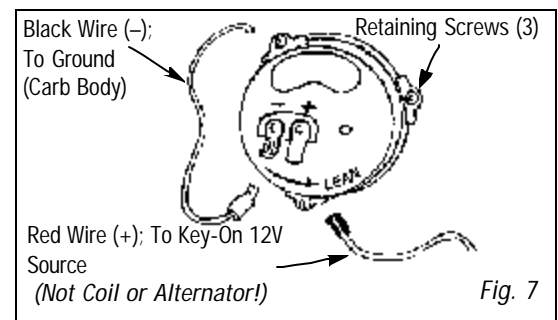

Fig. 7
- On electric choke models (See Fig. 7), remove one choke housing retaining screw and install eyelet end of choke ground wire (black) to choke housing and reinstall screw. Connect clip end of choke ground wire to negative (-) spade terminal on choke housing.
coil or alternator, see Fig. 7).